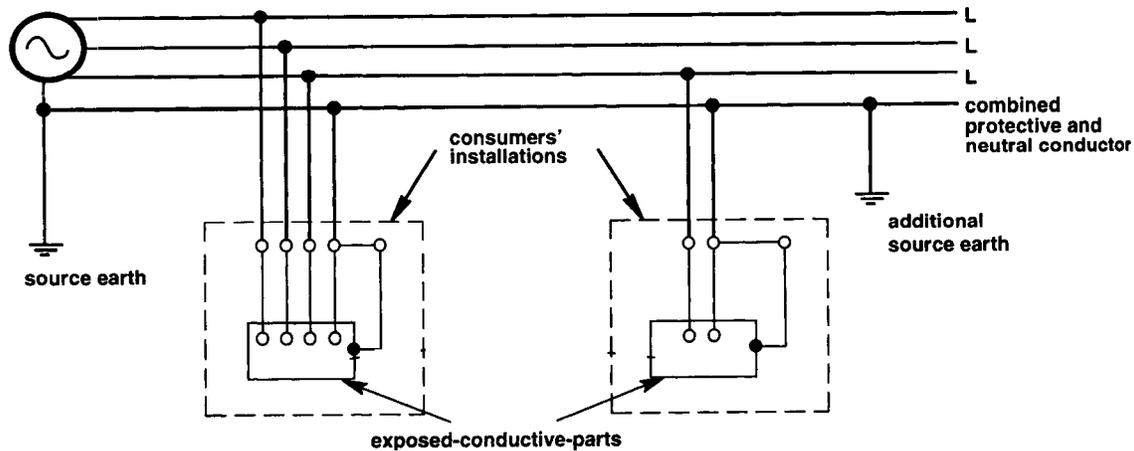

Figure A-3 – TN-C-S (PME) system
**TN-C-S system:** Both TN-C and TN-S configurations are used in different parts of the system. This configuration is also known as 'Protective Multiple Earthing' (PME). (Figure A-3)